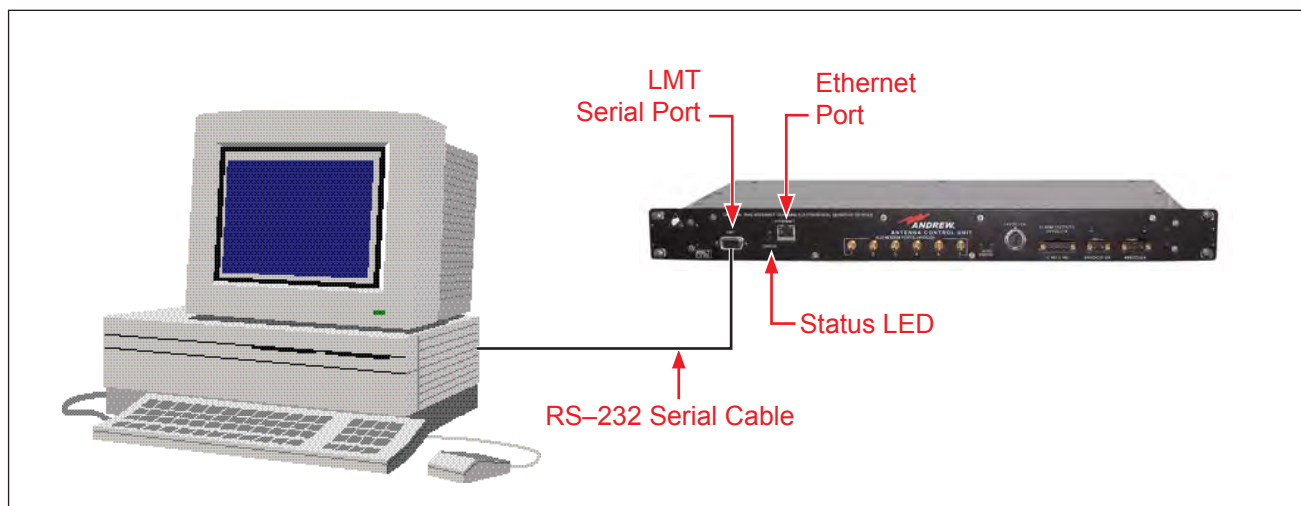

Figure 5-1. Local PC Connected To Controller's LMT Serial Port Using An RS-232 Cable.
2. Using an RS-232 serial cable, connect the COM1 serial port on a local computer and the LMT serial port on the front of the controller (Figure 5-1).